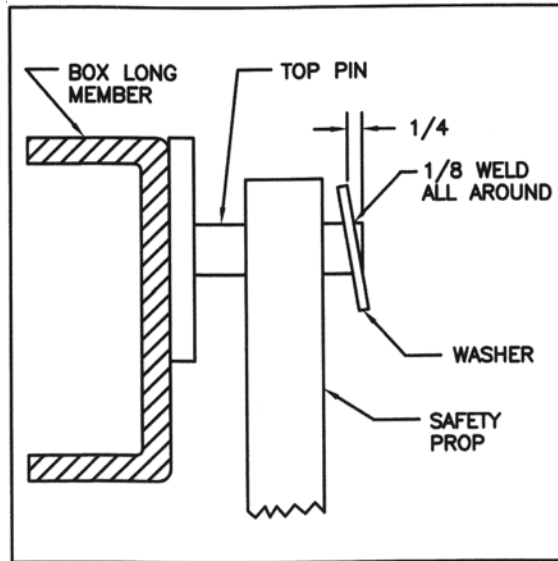

**Figure 18: Top Pin Plate Assembly**
2. Weld the Top Pin Plate Assembly to the box long member (see Figure 18). Remove the weld splatter from the pin.